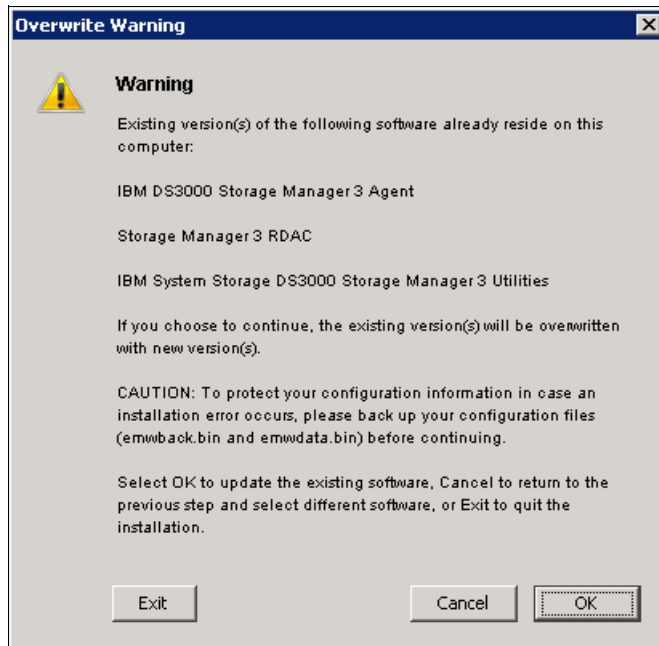

Figure 4-9 Overwrite Warning
9. If a version of Storage Manager is already installed, you see the warning that is shown in Figure 4-9. You can select to overwrite the existing installation or to cancel. Click **OK** to continue. If you do not have Storage Manager already installed, you do not see this warning.